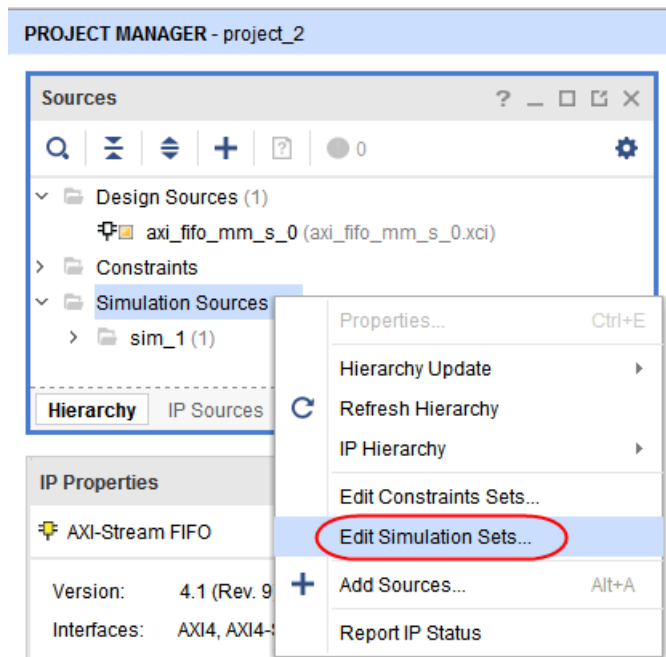

Figure 2-5: Edit Simulation Sets Option
1. In the Sources window popup menu, select **Simulation Sources > Edit Simulation Sets**, as shown in Figure 2-5.